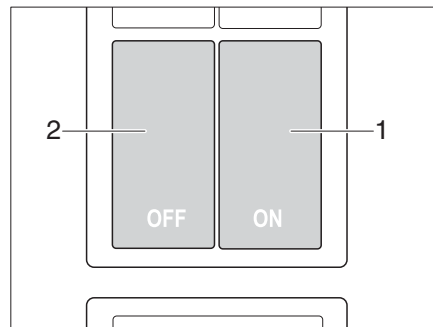

Fig. 15 Switch for the kitchen unit's central locking system
The kitchen unit is equipped with a central locking system. The flaps and drawers of the kitchen block can be locked and unlocked manually via the switch (Fig. 15).
- Press the switch (Fig. 15,2). The flaps and drawers of the kitchen block are locked.
- Press the switch (Fig. 15,1). The flaps and drawers of the kitchen block are unlocked.